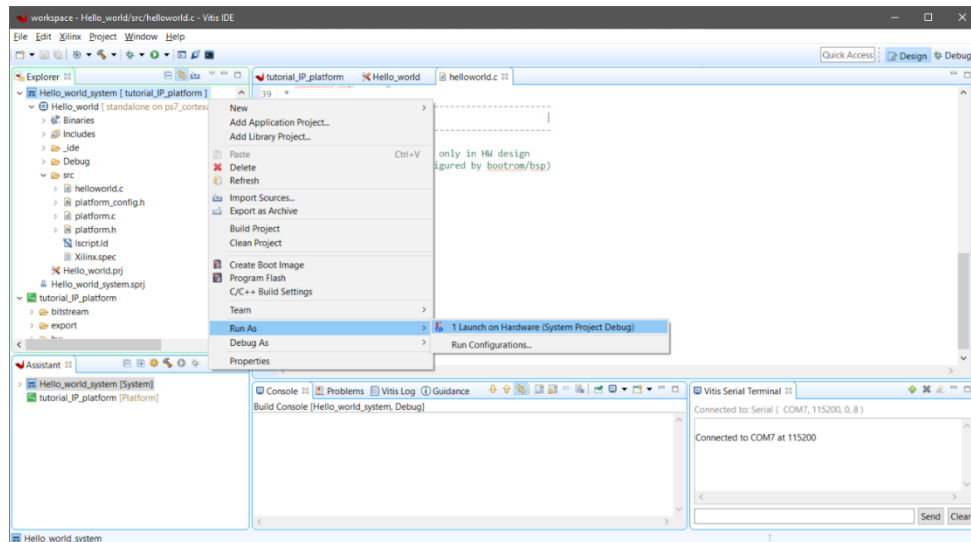

Figure 27
9. Right click and select **Run as → 1 Launch on Hardware (System Project Debug)** (Figure 27)